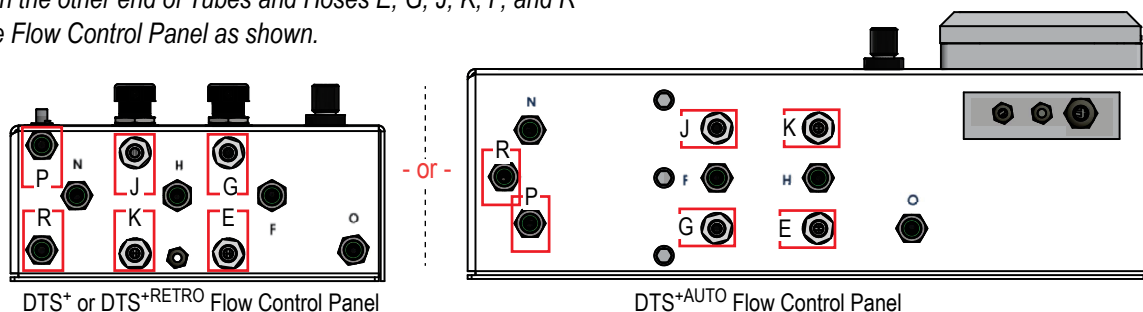

Figure 36: Plumbing Modular Aquamiser⁺
- "Figure 36: Plumbing Modular Aquamiser+" on page 62